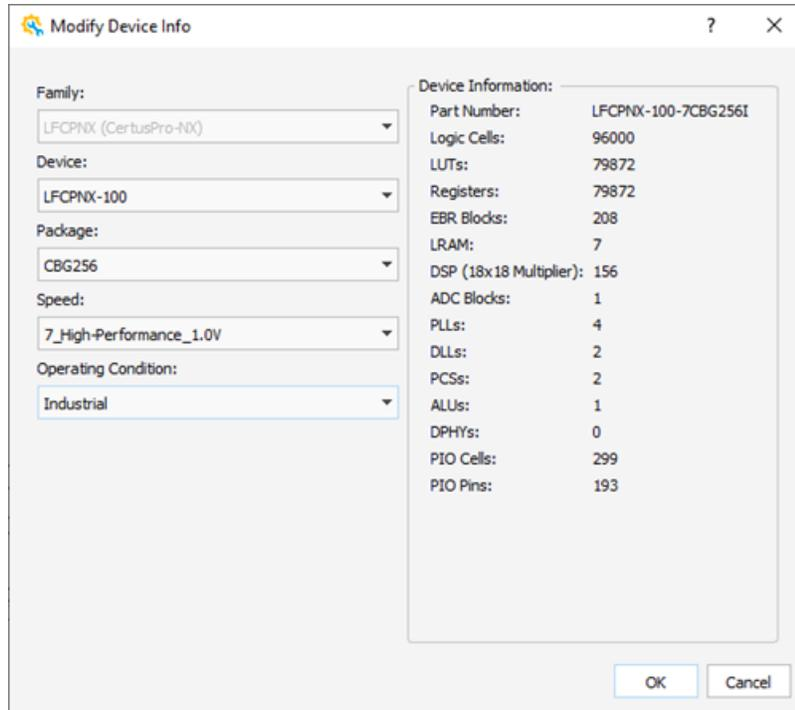

Figure 2.100. Modify Device Info
1. Double click the device part number from the Design View (Figure 2.99), the Modify Device Info wizard pops up (Figure 2.100).
2. Use the drop-down menu to choose the desired device in **Device** filed in the Modify Device Info wizard (Figure 2.100). Use the drop-down menu to change the package, speed and operating condition in **Package, Speed, Operating Condition** filed.